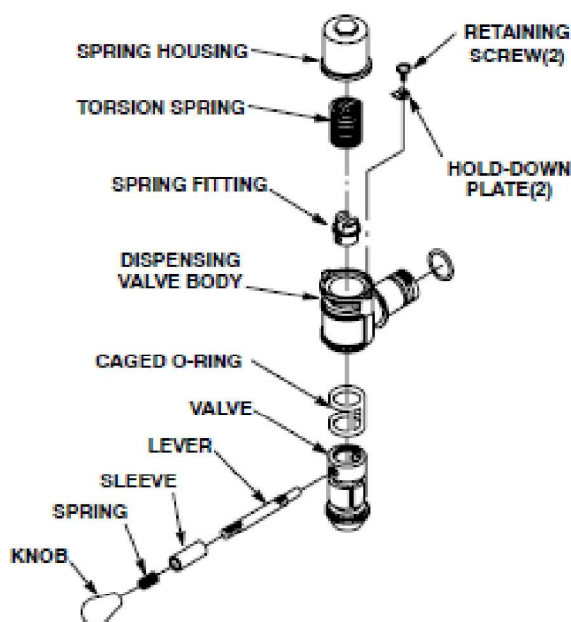

Figure 41. Self-Closing Dispensing Valve
Refer to Figure 41 and perform the procedure in Table 37 to lubricate or change the caged o-rings in each dispensing valve on the unit.
6.	Disassemble the dispensing valve (see Figure 41).